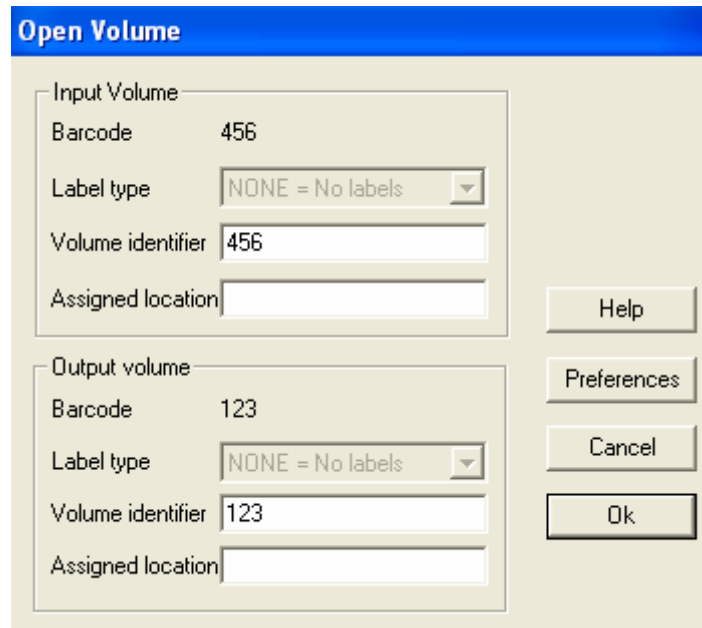

Figure 25: Open Volume Dialog Box
3. Once all fields have been filled and the OK button on the Open Unit Dialog Box has been pressed, then the user will be presented with the open volume dialog box to verify the logical information about the input and output volumes. This dialog box allows the user to verify or modify the current settings for the volume identifier and volume assigned location for the input and/or output tapes. The input tape volume id is read from the tape while the output volume id is, by default, the same as the volume bar code. The copy preferences can be set at this point by pressing the Preferences button, as described in Section 20.1, Job Preferences. When this dialog box is completed the VOL1 header label is written to the output tape. This box is shown in Figure 25: Open Volume Dialog Box Figure 25.